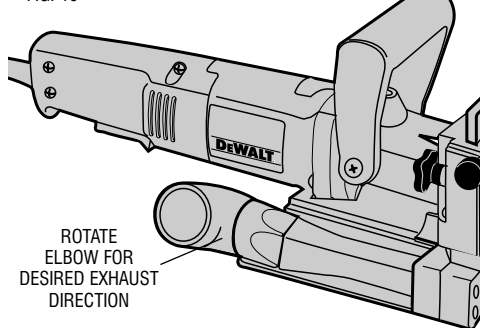

FIG 11
B. Dust Adaptor (See Figure 11)